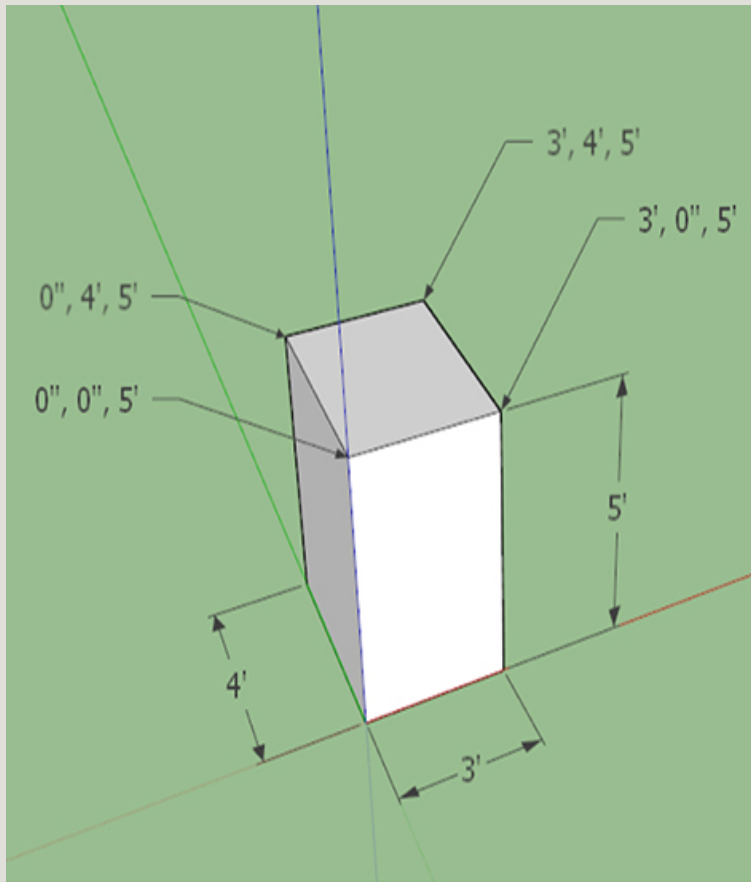

Figure 2-3 Every point has a coordinate that describes its location along the three axes. Note the model's location at the origin.
- **Three axes.** These are the height, length, and depth lines along which SketchUp draws. Their intersection is called the *origin*. The height (*y*) line is blue, and the ground lines (*x* and *y*) are red and green, respectively. The axes lines are solid in the positive directions and dotted in the negative directions. Every point has a coordinate (group of numbers) that describes its location. (3,4,5) means 3 units along the *x*/red axis, 4 units along the *y*/green axis, and 5 units along the *z*/blue axis. It's best practice to model in the upper-right quadrant and near or on the origin, as shown in Figure 2-3. Number coordinates are positive there, making inputted numbers and calculations